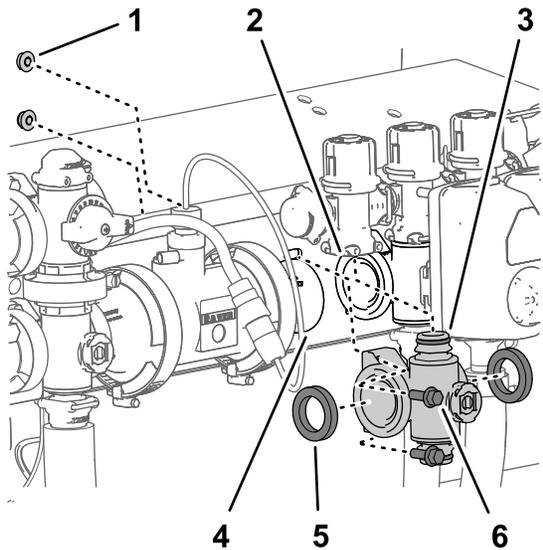

Figure 122
4. For left or right section-valve manifolds, remove the 2 flange-head bolts (1/4 x 3/4 inch) and 2 flange locknuts (1/4 inch) that secure the section-valve manifold to the valve support (Figure 122).
5. Move the section-valve manifold and gaskets down to clear the section-bypass valve and then away from the machine (Figure 122).